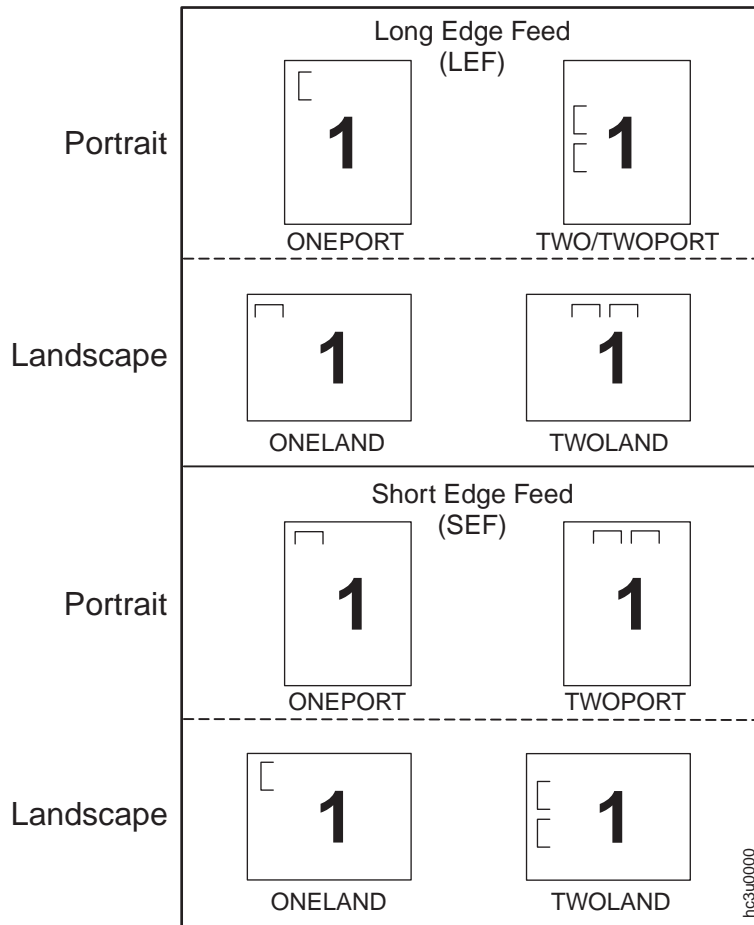

Figure 1. Staple Positions
3. Review Figure 1 on page 72 to determine which staple option to select. Staple position is determined by three factors: